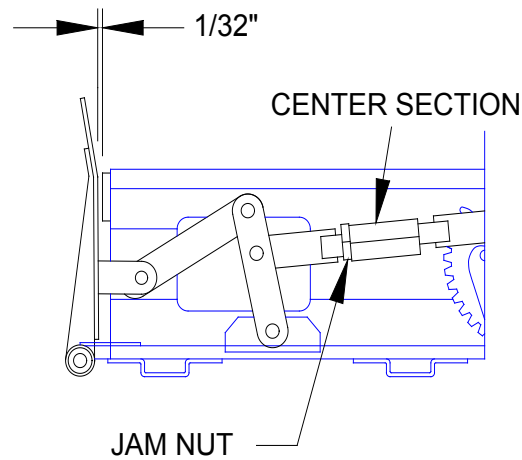

FIGURE 4-12: CLOSED ROLLSTOP ADJUSTMENT
- 7) Refer to Figure 4-12. Adjust link so that Rollstop closes to within 1/32" (0.8 mm) of rubber bumper (that Rollstop contacts). Rotating the center section CCW (viewed from Rollstop) shortens the link, and turning it Clockwise (CW) lengthens it.